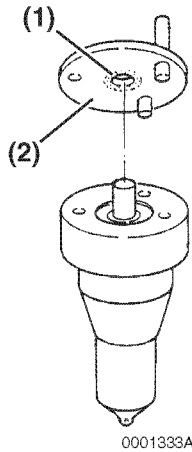

Figure 6-94
6. Inspect the sealing surfaces (**Figure 6-94, (2)**) between the valve stop spacer and nozzle body for nicks or scratches. Check the contact area between the valve stop spacer and the nozzle valve (**Figure 6-94, (1)**) for scoring, or pitting. Use a magnifier glass to inspect the area.